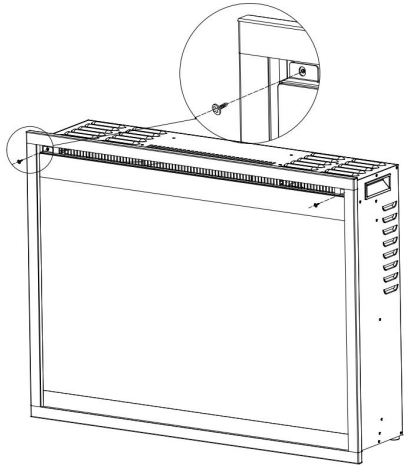

Fig. 1-1
- Take off the two screws from the two sides Fig.1-1.